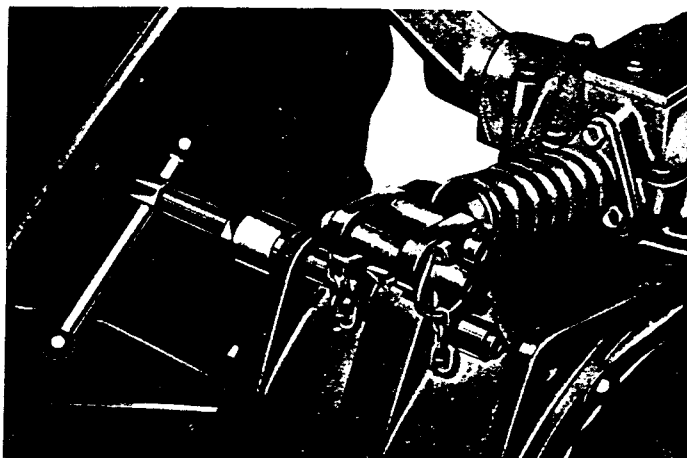

FIG. 37.
## CONTROL SPRING ROCKER BUSH REMOVER/REPLACER FT. 99, FIG. 37.
1. Insert stem of Service Tool through L.H. outer web with thrust bearing and nut outside web, as shown in Fig. 37, and screw cap on to end of stem.